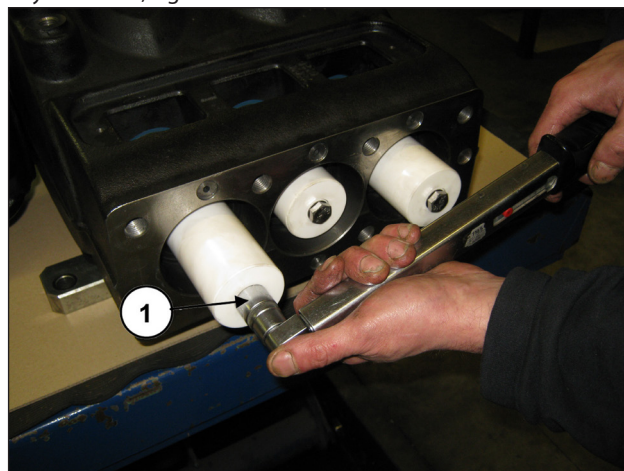

Fig. 152
Disassemble the pistons by unscrewing the fixing screws (pos. ①, Fig. 152).